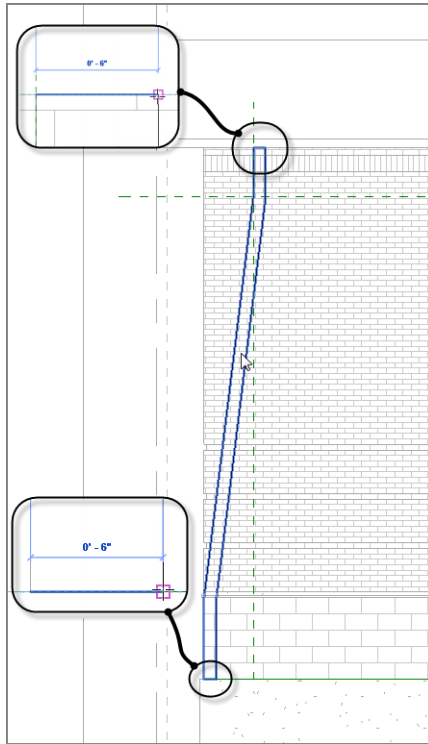

FIGURE 16.45: Closing the loop
15. Draw a line at the top and the bottom, closing the loop. See Figure 16.45. Pick Modify.